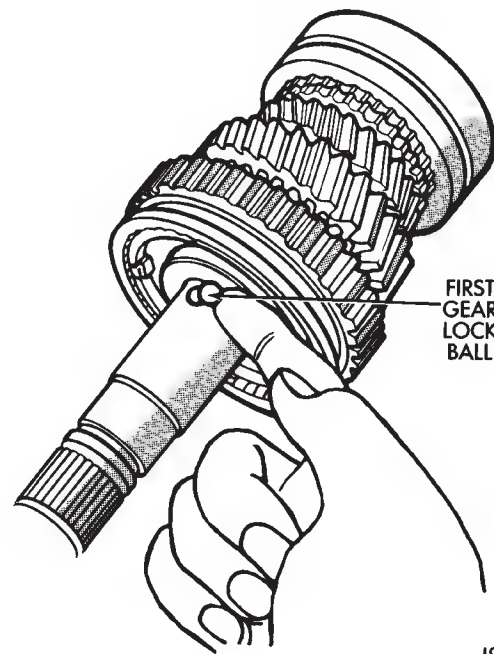

Fig. 51 Installing First Gear And Lock Ball
(11) Install first gear lock ball in output shaft (Fig. 51).